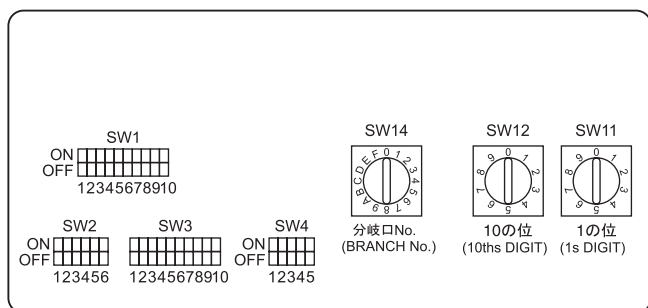

Fig. 4-6
4.5. Setting addresses (Fig. 4-6)